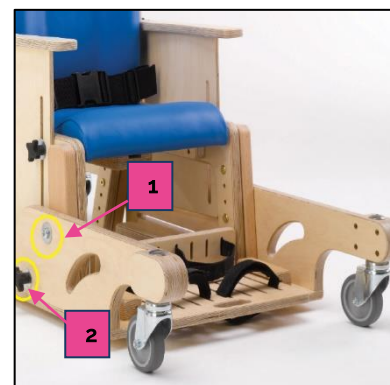

Fig. 3.1.5-1
1. Place the chair into the mobile base. (See Fig. 3.1.5-1)
2. Using the 4 bolts provided with the mobile base accessory pack, secure to the leg's outriggers. (see Fig. 3.1.5-1 Ref 1).
3. To Adjust the footrest, loosen the handwheels located on the seat of the mobile base (see Fig. 3.1.5-1 Ref 2).